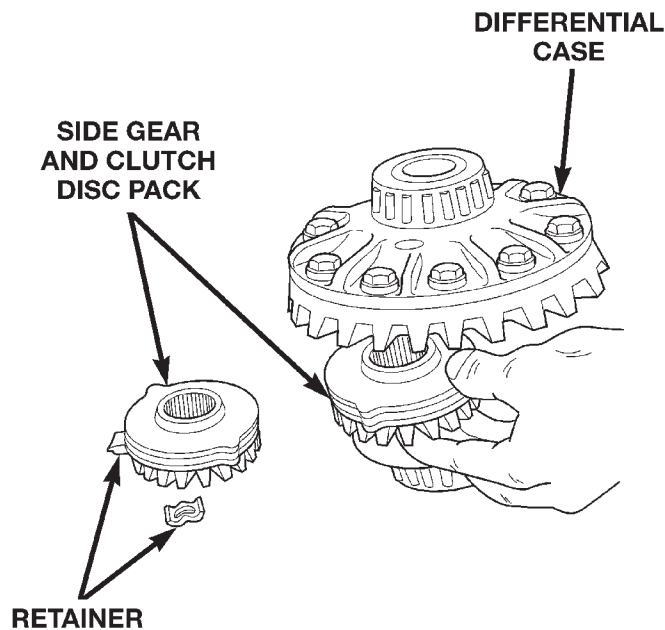

Fig. 60 Side Gear & Clutch Disc Removal
(14) Remove pinion gears from differential case.
(15) Remove Forcing Screw C-6960-4, Step Plate C-6960-3, and Threaded Adapter C-6960-1.
(16) Remove top side gear, clutch pack retainer, and clutch pack. Keep plates in correct order during removal (Fig. 60).
(17) Remove differential case from Side Gear Holding Tool 6965. Remove side gear, clutch pack retainer, and clutch pack. Keep plates in correct order during removal.